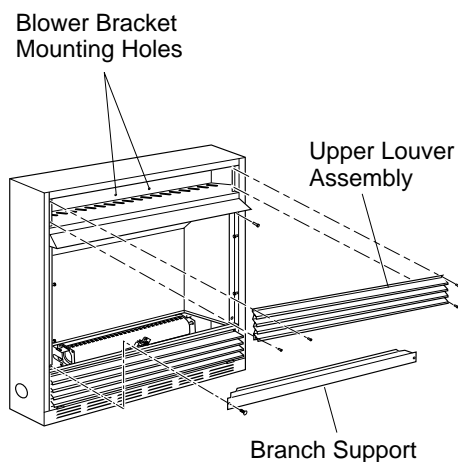
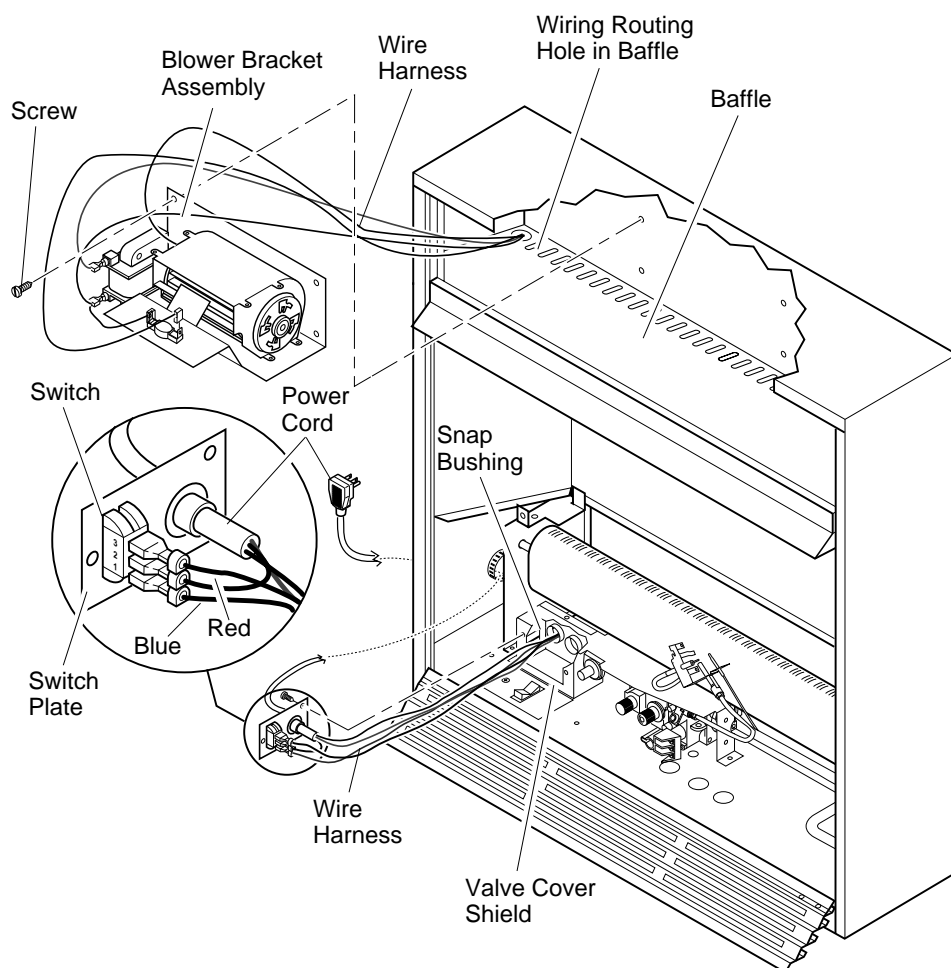
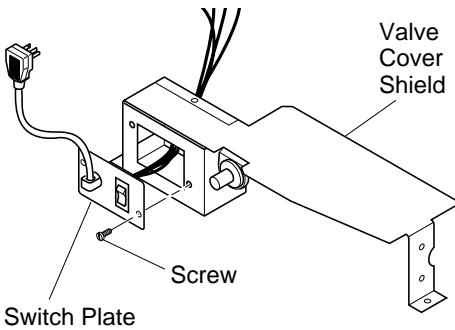

Figure 15 - Removing Upper Louver Assembly and Branch Support
Figure 16 - Installing Blower Bracket Assembly
Figure 17 - Installing Switch Plate to Valve Cover Shield
2. Remove 2 screws from each side of branch support and pull branch support out (see Figure 15).
3. Remove 4 brass-plated screws from louver assembly (see Figure 15). Save these screws.
3. Note the wire locations on back of AUTO/OFF/ON switch. The terminals on back of switch are numbered 1, 2, and 3. Carefully remove red wire from terminal 3 and blue wire from terminal 1. Black wire can remain on middle terminal 2 (see figure 16).
5. In top of the heater cabinet, locate the four mounting holes on the outer casing. Align these four holes with those on the blower bracket assembly. Attach blower bracket assembly to the outer casing with 4 #10 screws provided (see Figure 16).
6. Route the wire harness through the hole in left side of baffle. Pull wire harness through lower opening on the side of the valve shield. (see Figure 16).
7. Insert the 4 wire harness into one of the round holes in the rear of the valve cover shield and through the rectangular hole in the front of shield (see figure 16).
- Install the switch plate on the valve cover shield with 2 #10 screws provided (see Figure 17). Route power cord out of the cabinet by inserting it through the bushing on the outer casing (see Figure 16, page 11). Plug fan kit into 120-Volt grounded power supply and test operation. *Note:* When switch is in the AUTO position, the fan will start after the heater has run for a few moments. The fan will continue to run for several moments after the heater has been turned off. When switch is in the ON position, the fan will run until turned to OFF. Reinstall upper louver assembly (see Figure 15, page 11) and grid support. Close lower louver door.
- Reinstall upper louver assembly (see Figure 15, page 11) and close lower louver.